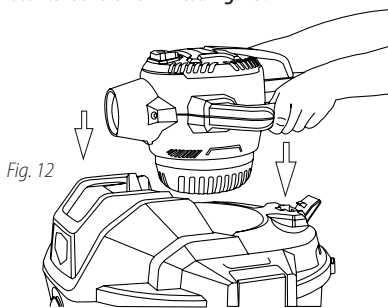
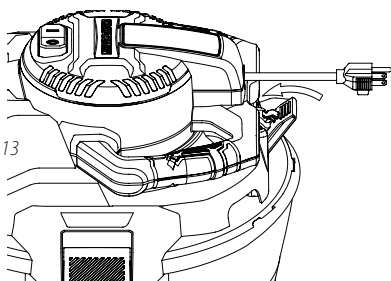

Fig. 12
Fig. 13
31. Reattach blower **3** for wet/dry operation by placing blower back into nest on tank cover. **Fig. 12**. Pull blower latch to lock blower in nest. **Fig. 13**.